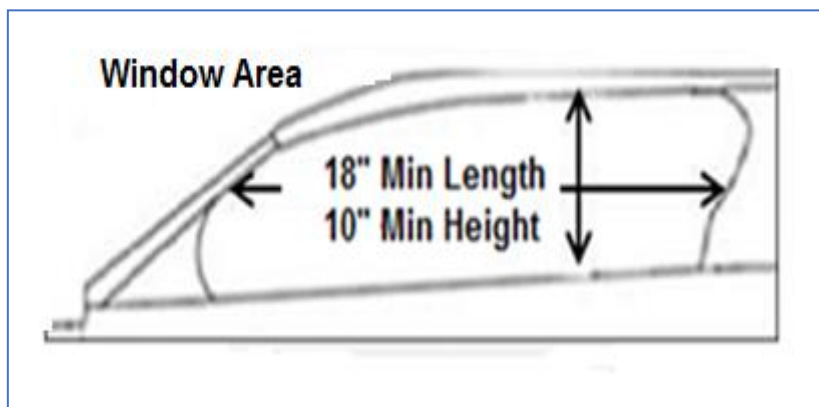

Figure 10
11.1 There must be a minimum clear opening of 18 inches long by 10 inches high in both the drivers and passenger side windows (No Tolerance). (*Figure 10*)